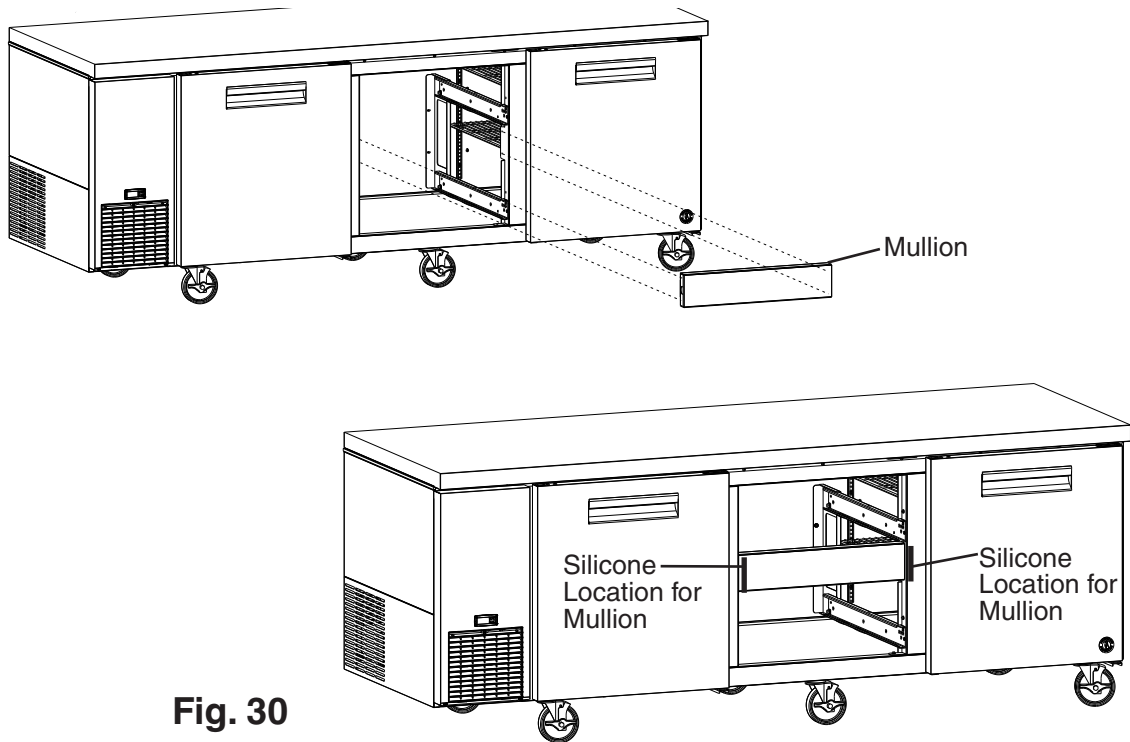

Fig. 30
- 26) Place a bead of food grade silicone down the 2 outside vertical gaps between the mullion and appliance. See Fig. 30.